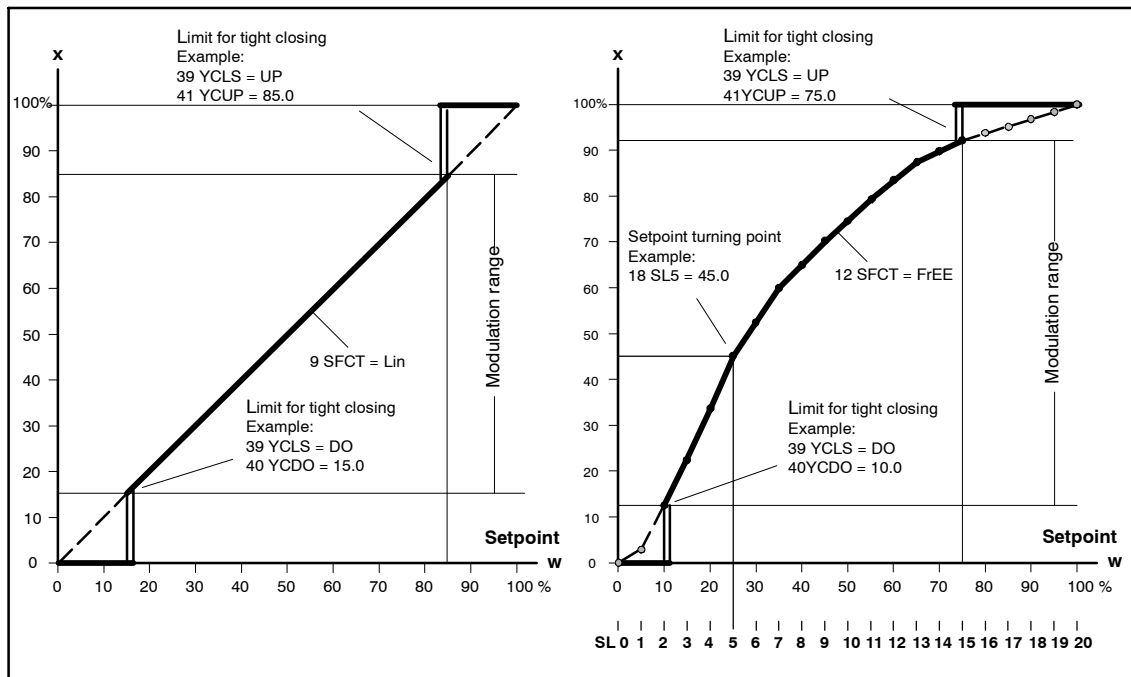

Figure 4-9 Setpoint characteristic, manipulated variable standardization and tight closing function
- 12.SFCT Setpoint function (see figure 4-9, page 102)
- 35.YA** Manipulated variable limiting start (see figure 4-9 and 4-10)
- 36.YE** Manipulated variable limiting end (see figure 4-9 and 4-10)
- 37.YNRM** Manipulated variable standardization (see figure 4-9 and 4-10)
Tight closing with manipulated variable (see figure 4-9, page 102)